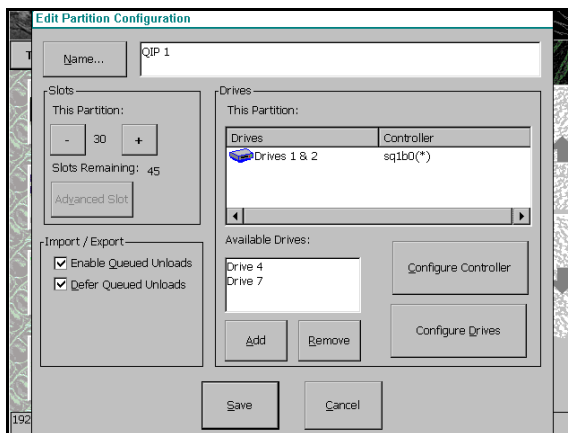

Figure 4-3 Edit Partition Configuration window.
- To create a new partition, tap **New**. To edit an existing partition, select the library and tap **Edit**. This displays the Edit Partition Configuration window (Figure 4-3).